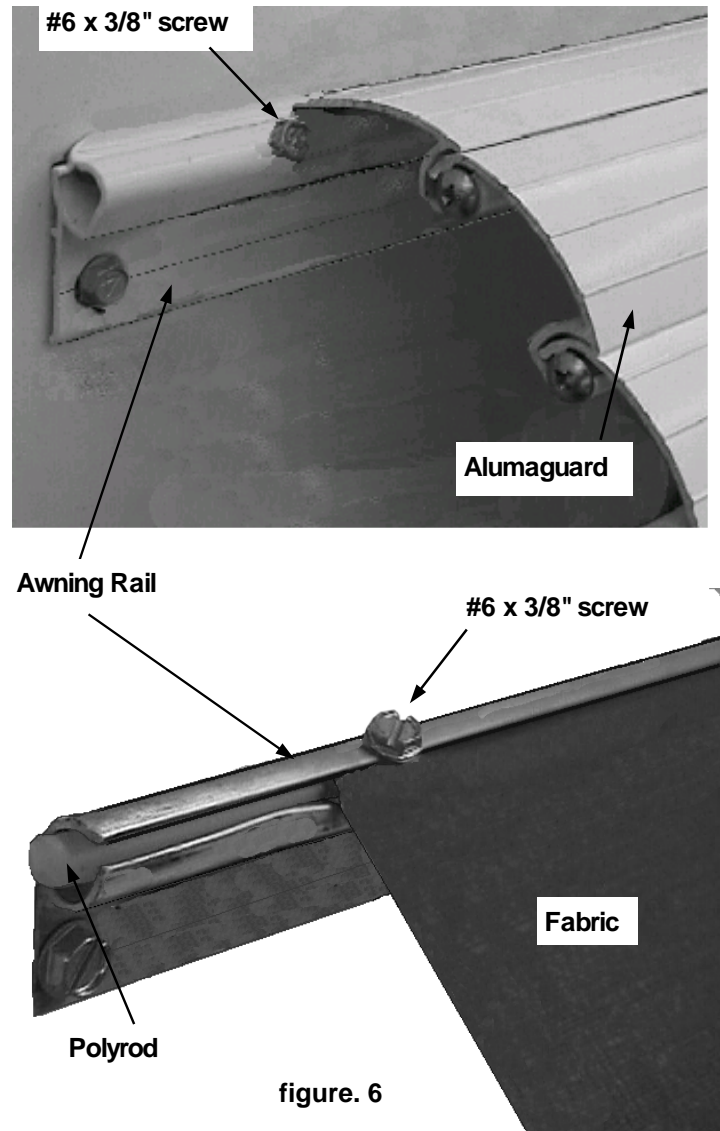

figure. 6
**A. Secure the canopy fabric or Alumaguard using one, #6 x 3/8" hex head screw at the front and back end of the awning (figure 6).** (requires 1/4" Nut Driver